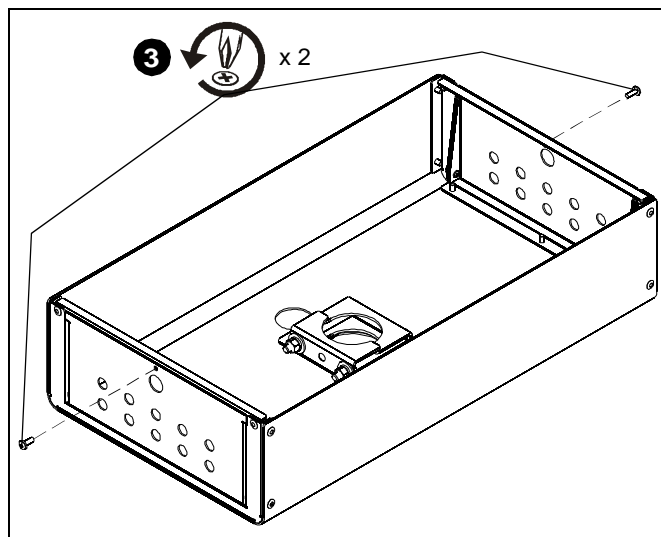

Figure 1
3. Remove one screw from door at each end of CMA480. (See Figure 1)